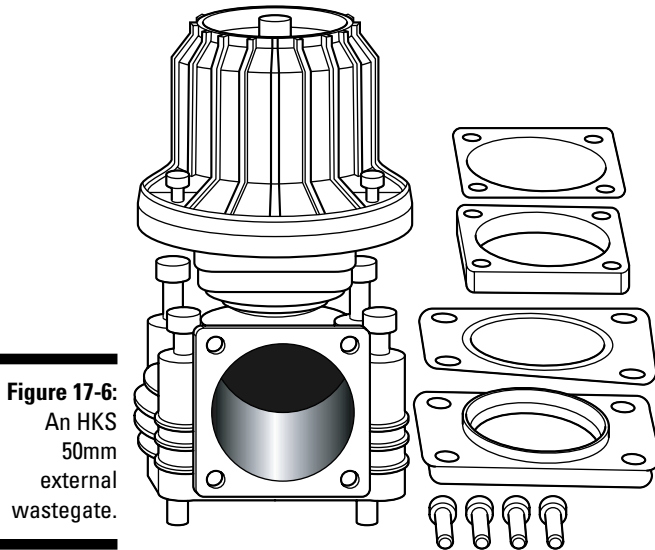

Figure 17-6:
- An *external* wastegate (see Figure 17-6) is controlled by a boost controller and can be directed to bleed either into the exhaust system or directly into the atmosphere. It is generally mounted wherever there's space for it.